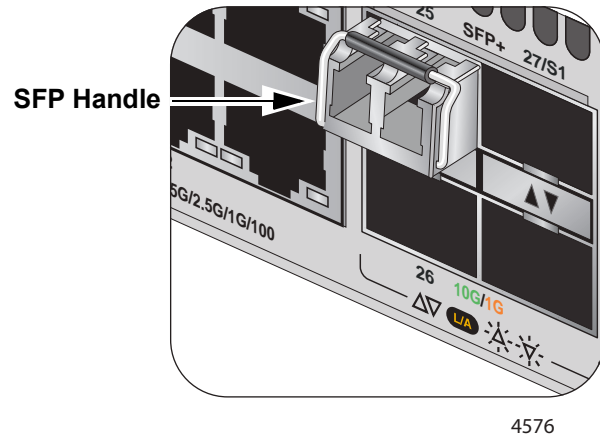

Figure 52. Positioning the SFP or SFP+ Handle in the Upright Position
5. Verify the position of the handle on the transceiver. If the transceiver is in a top port, the handle must be in the upright position, as shown in Figure 52. If the transceiver is in a bottom port, the handle must be in the down position.